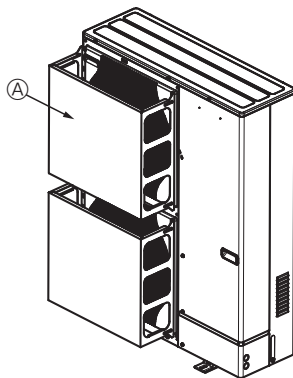

Fig. 2-4
- ② Install an optional air protection guide if the unit is installed in a location where strong winds from a typhoon, etc. may directly enter the air outlet. (Fig. 2-4)